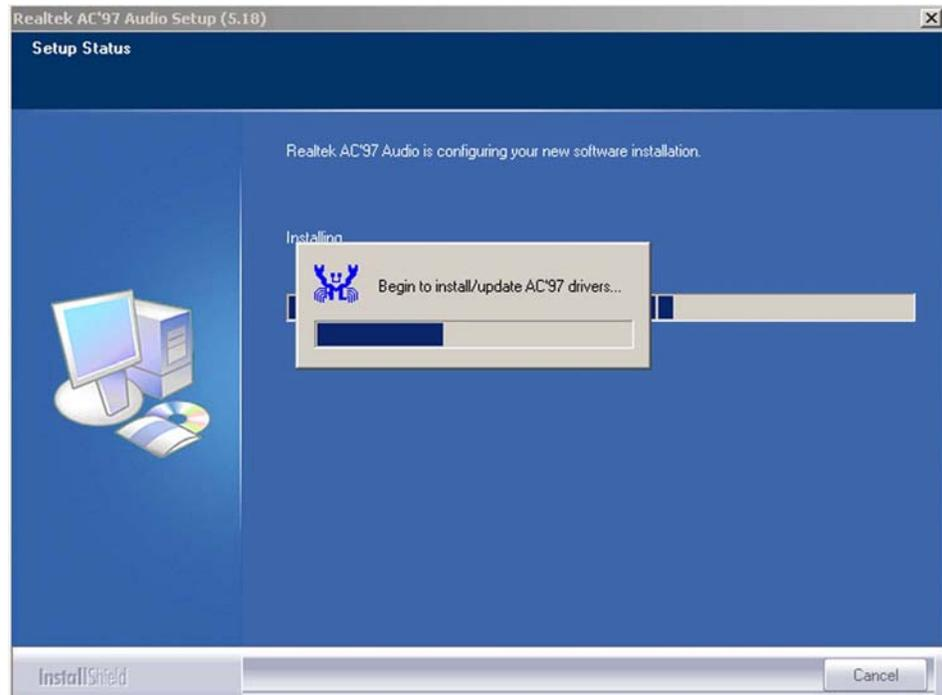

Figure 6-20: Audio Driver Installation Begins
Step 11: At this stage the clicking the “YES” button in Figure 6-19 appears, the installation of the driver begins. See Figure 6-20.